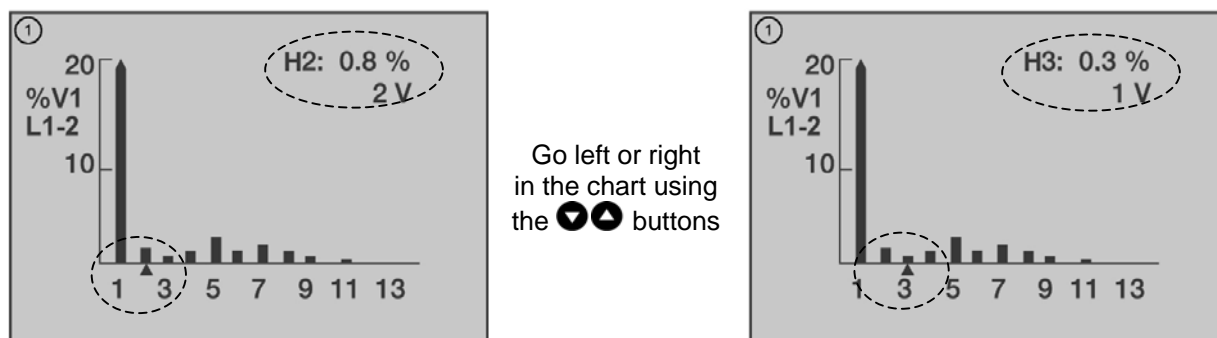

Figure 8.9. Spectrum of the network voltage in chart format displayed by the PQF-Manager
- The network voltage spectrum for all phases in chart format (Figure 8.9.)
- The line current spectrum for all phases in chart format. The chart layout is similar to the one of the voltages (Figure 8.9.)
- The filter current spectrum for all phases in chart format. The chart layout is similar to the one of the voltages (Figure 8.9.) but the values are expressed in absolute terms.